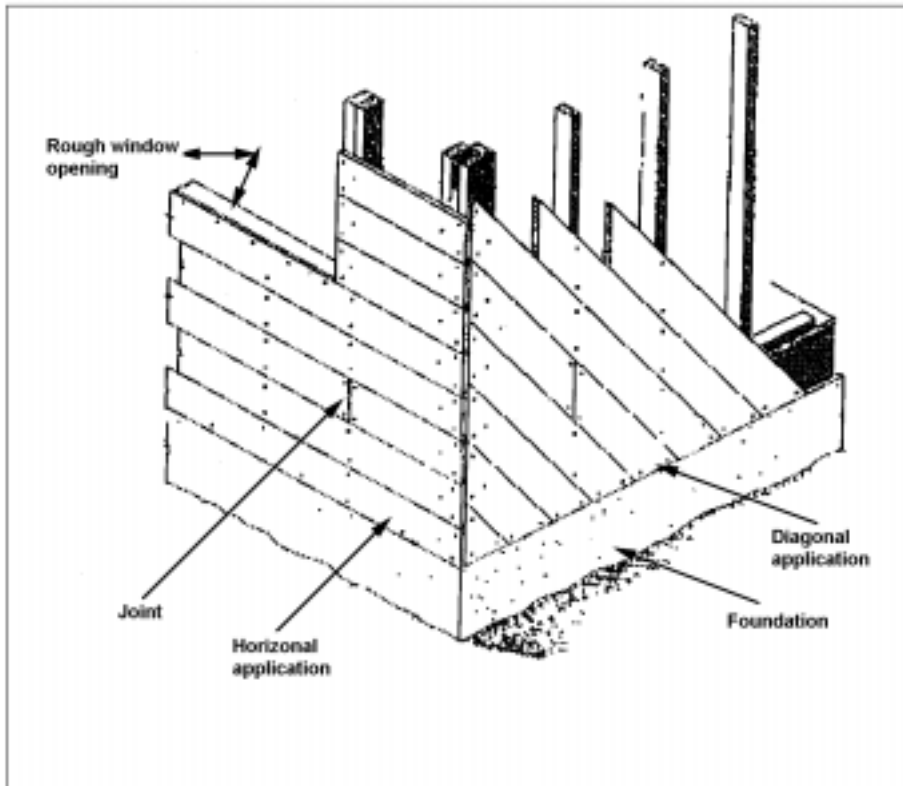

Figure 051-236-1201-1
- (2) Sheathing types.
- (3) Sheathing installation procedures.
- (a) Wood (dimensional boards). Select the lengths economically. Use two 8d nails to nail sheathing boards 6 inches to 8 inches wide to each stud crossing. Nail wider boards with at least three 8d nails at each stud crossing. All board-end joints are made at the center of the stud. Apply board sheathing horizontally or diagonally. Horizontal placement ensures less waste of material; however, if the sheathing is applied in this manner, some type of corner bracing is required. Board sheathing applied diagonally is slightly more difficult to install. The sheathing applied at a 45-degree angle adds strength to the wall and eliminates the need for diagonal corner bracing. Apply wood sheathing starting at the foundation or bottom and working upward or toward the top of the wall. Butt each board tightly against the next and stagger the joints that fall on the intermediate studs so no adjoining board has a break or joint at the same location (Figure 051-236-1201-1).